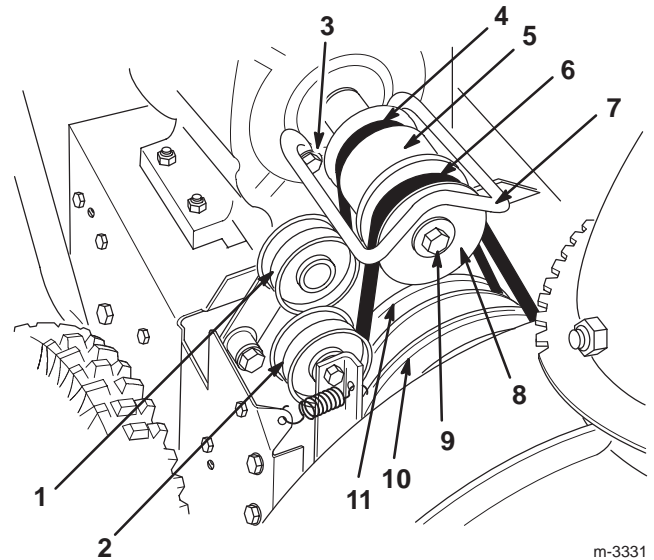

Figure 26
- Remove 2 bolts, 2 washers, and 2 lock washers that secure the belt guide (Fig. 26).
- Remove the engine crankshaft bolt, lock washer, and washer (Fig. 26).
- Separate and remove the engine pulley sheave (Fig. 26).
- Remove the engine pulley (Fig. 26).
- Remove the traction drive belt from the traction pulley and the engine crankshaft (Fig. 26).
- Pull the traction idler pulley outward and install a new traction drive belt (Fig. 26).
14. Pull the idler pulley outward and loop the auger/impeller drive belt in front of the engine pulley, ensuring that the belt is on the inside of the idler pulley (Fig. 26).
6. Remove the 2 bolts, 2 washers, and 2 lock washers that secure the belt guide (Fig. 26).
7. Remove the engine crankshaft bolt, lock washer, and washer (Fig. 26).
8. Separate and remove the engine pulley sheave (Fig. 26).
9. Remove the auger/impeller drive belt (Fig. 26).
10. Pull the idler pulley outward and install a new belt around the large auger/impeller pulley (Fig. 26).
11. Loop the belt in front of the engine pulley, and ensure that the belt is on the inside of the idler pulley (Fig. 26).